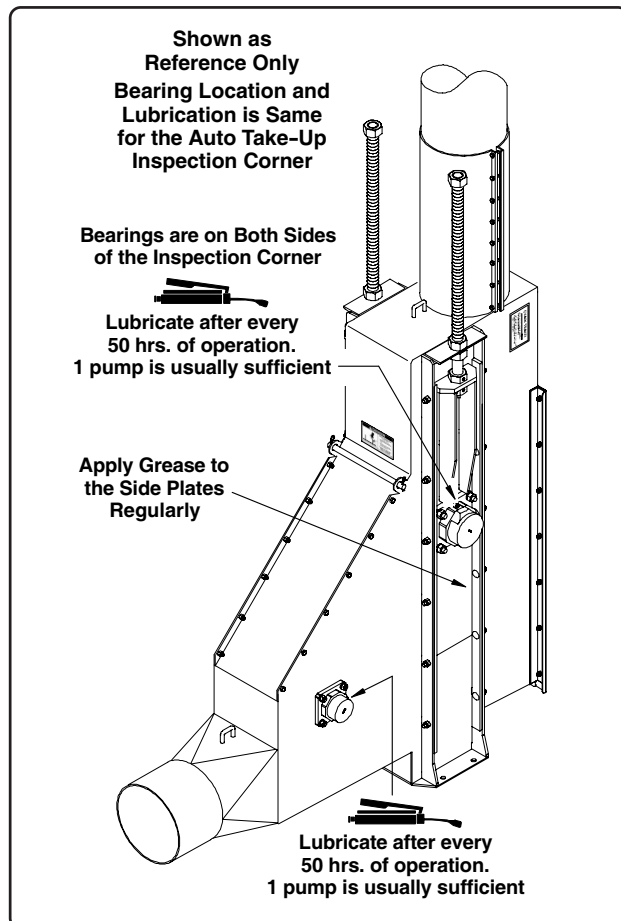
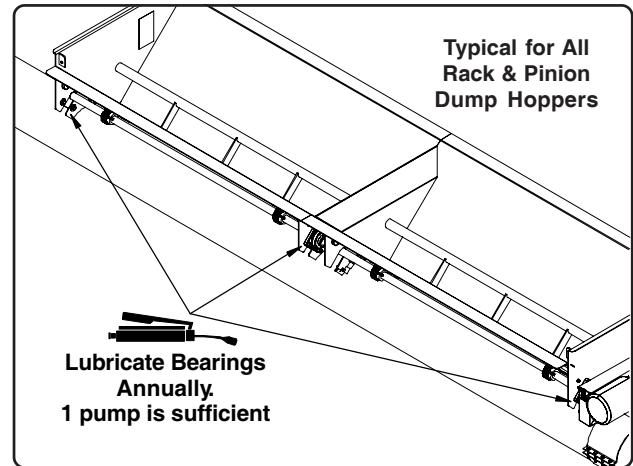
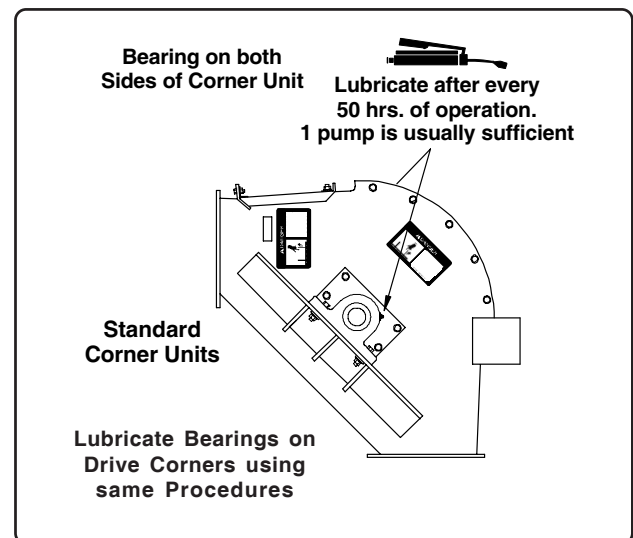
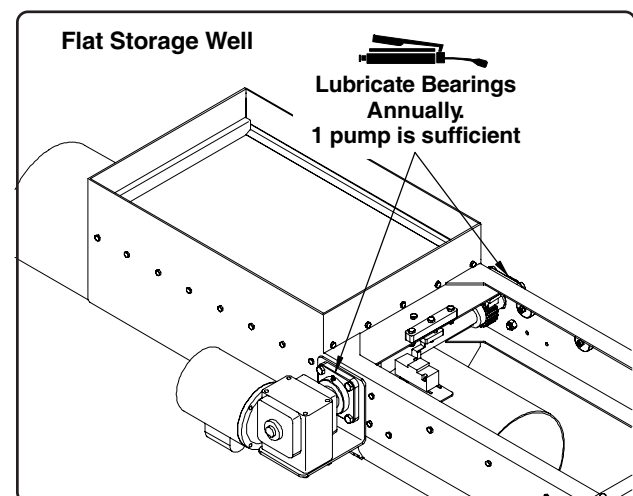

Fig. 6
Fig. 7
Fig. 8
Fig. 9
These bearings are self-aligning, sealed ball bearings which have been packed at the factory. They should be lubricated at approximately **fifty (50) hour intervals** with an SAE multipurpose type grease (See Fig. 6, Fig. 7, Fig. 8 & Fig. 9).